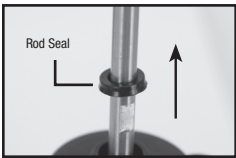

Figure 3
- 3) Remove rod seal (fig. 3). Note orientation.